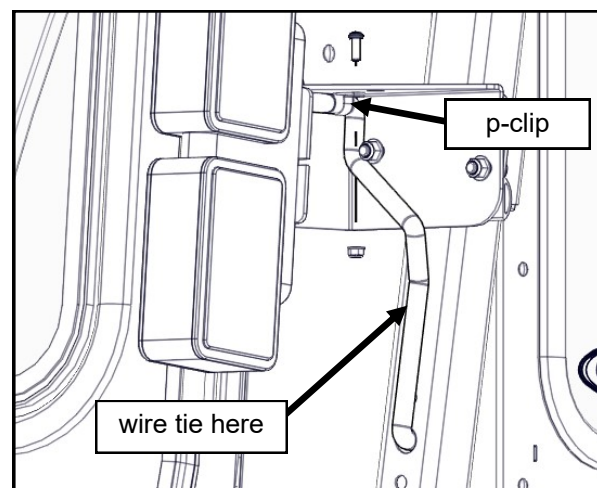

Fig. 23.3 (Rear Signal Light Wire Routing)
**23.3** Run the wires with loom down the inside of the ROPS bracket and ROPS. Secure using the supplied P-Clips, #10-32 screws, and nuts. The screws go on the outside of the ROPS brackets with the P-Clips and flanged nuts on the inside. Using the (2) 11" long wire ties provided, secure the wire loom to the ROPS. See Fig. 23.3.